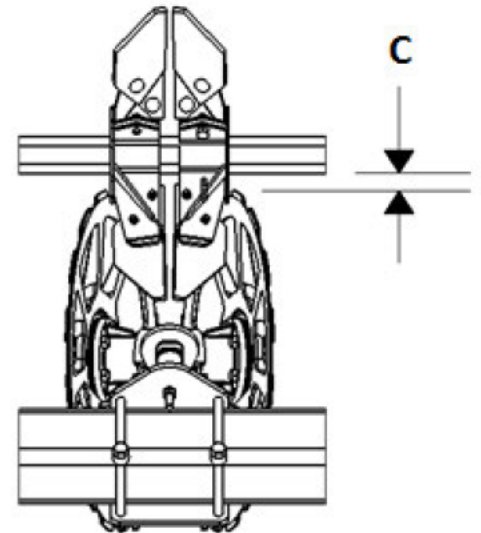

Figure 7-16: Paddle Shaft to Lifter Wheel Rim Dimension
! **CAUTION:** When the harvester is equipped with rock struts, the distance (C), shown in figure 7-16, between the lifter wheels and paddle shaft must have at least 1 inch. (2.5 cm) of clearance to protect the paddle shaft from the lifter wheels in the event of contact with a rock.